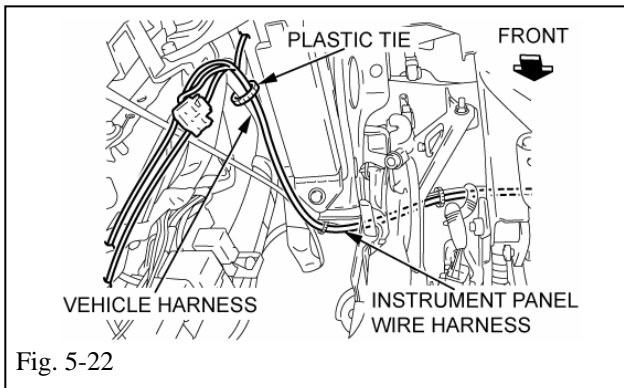

Fig. 5-22
(aa) Secure the I/P W to the vehicle wire harness using one (1) plastic tie (150 mm black). (Fig. 5-22)